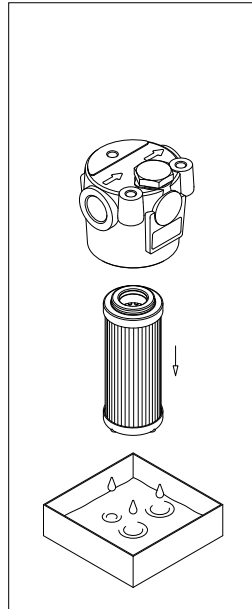

fig. 6
- (Fig. 6) Pull the filter element out.